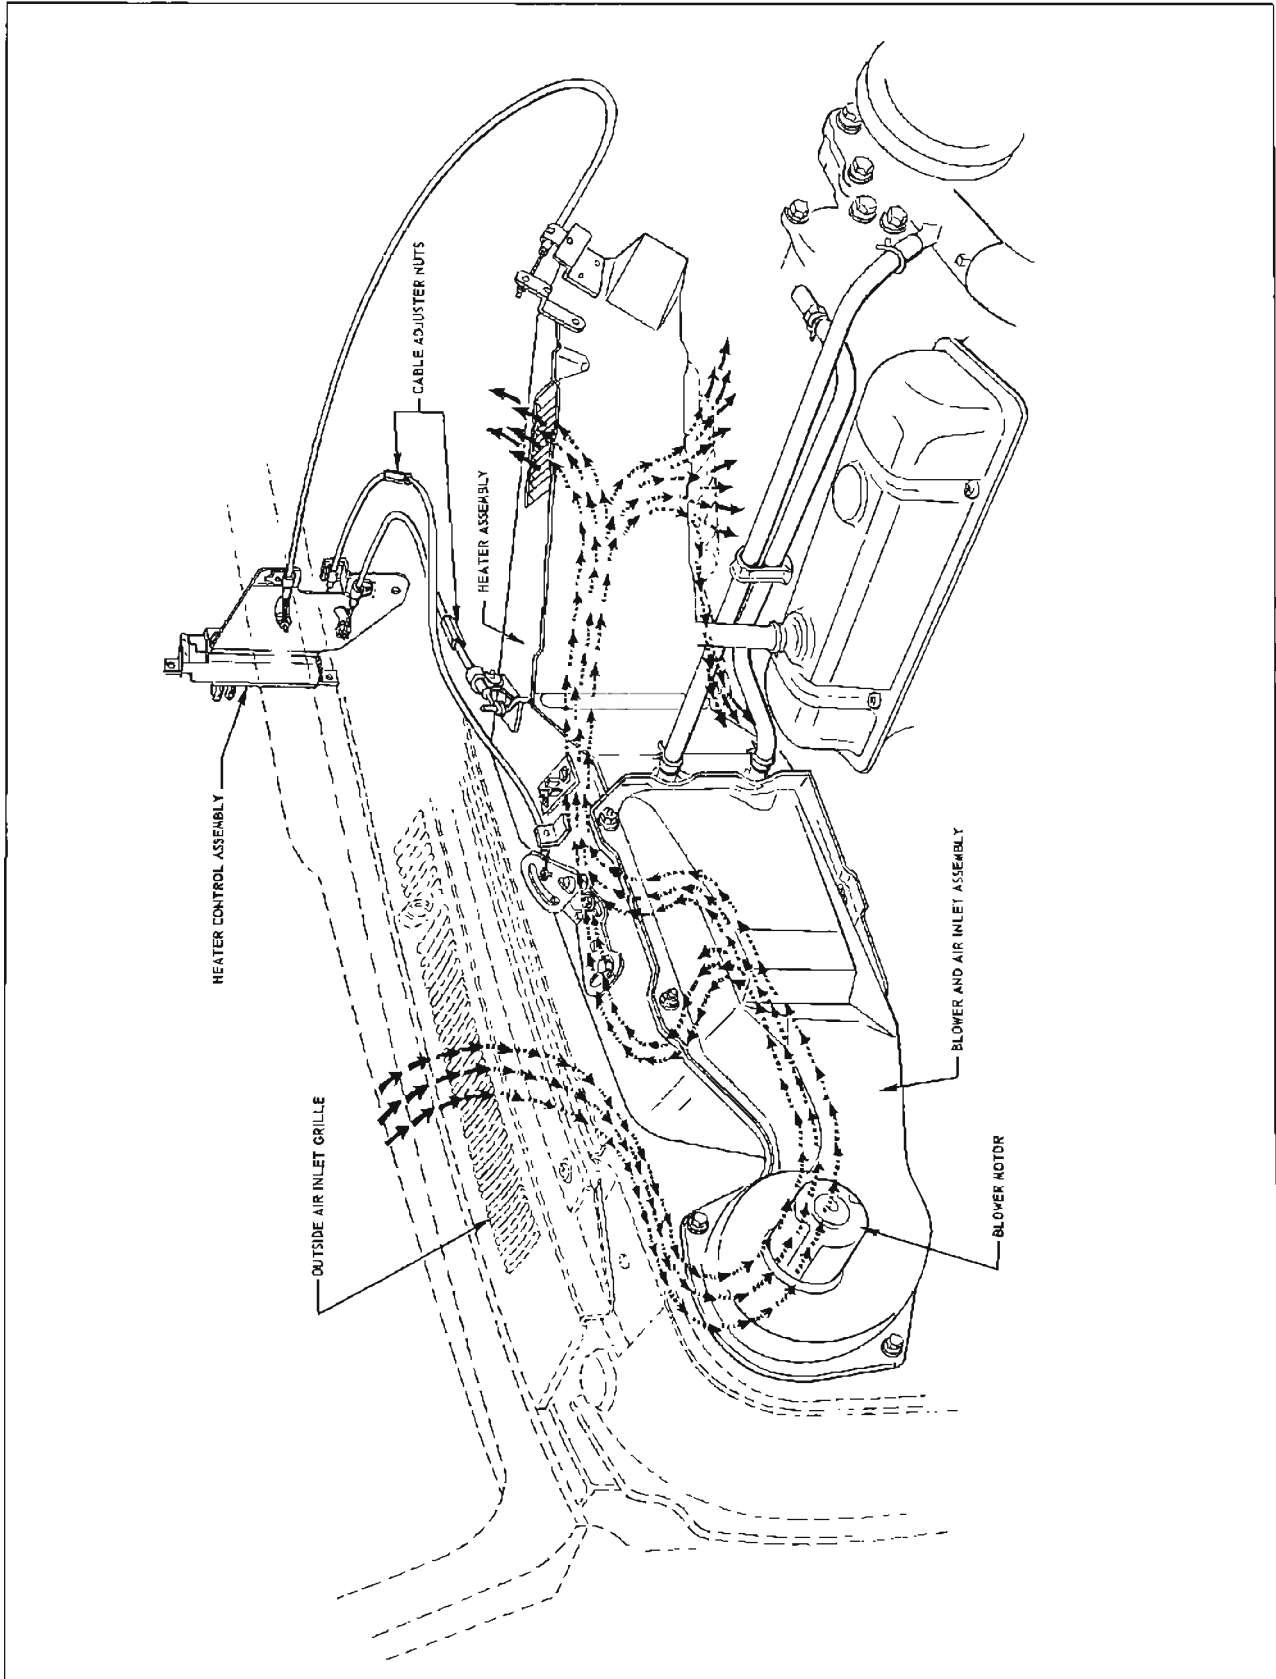

Figure 11-10—Heater System - 4000, 4100 & 4300 Series
The heater system is an air-mix type system in which outside air is heated and then mixed in varying amounts with cooler outside air to attain the desired air temperature. The system consists basically of three parts: (1) the blower and air inlet assembly, (2) the heater assembly, and (3) the heater control assembly (see Figure 11-10). The operation of the system is as follows: